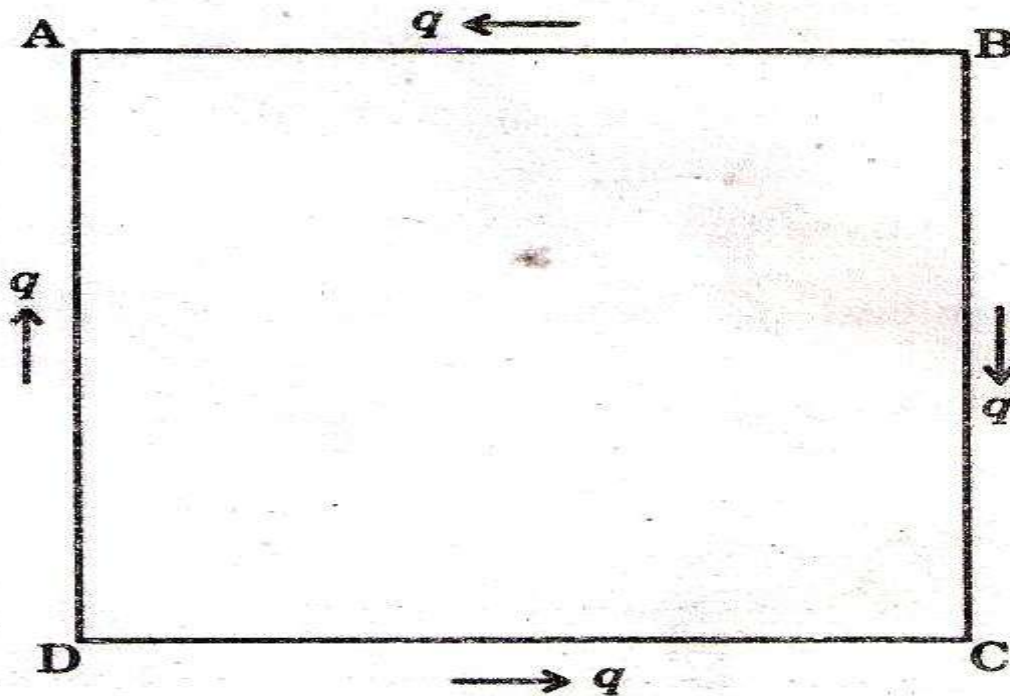

Fig. 2
- (b) Consider a square block ABCD (as shown in Fig. 2) with side 'a' and the thickness unity, perpendicular to the plane of figure. Let the block be subjected to shear stress of intensity 'q'.